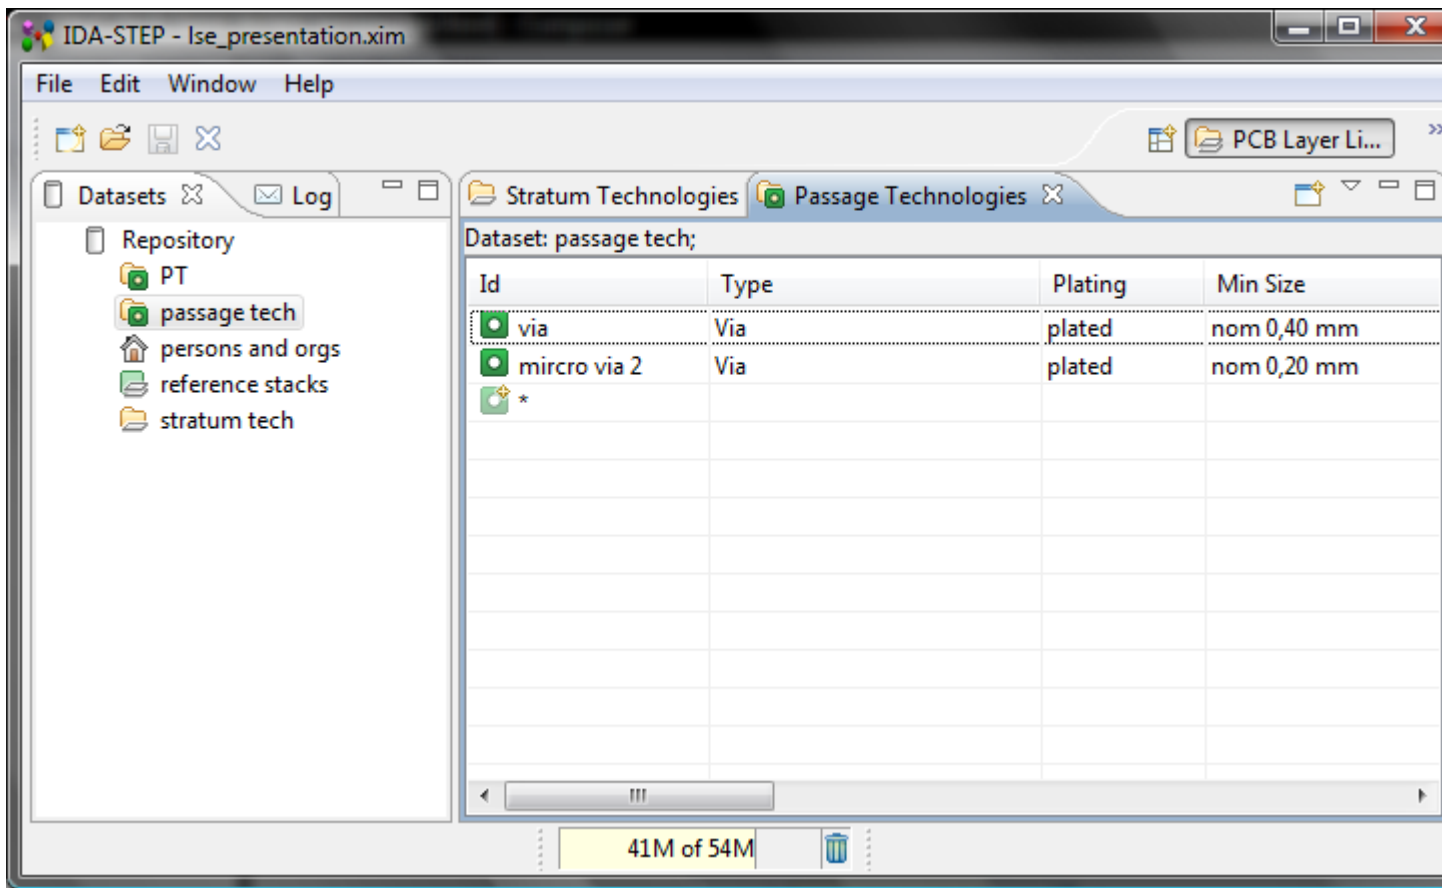

Figure 2. Selected dataset of type passage technology and activated Passage Technologies view
- Selecting an applicable dataset of type *passage technology* in the **Datasets** view activates the **Passage technologies** view (see Figure 2).